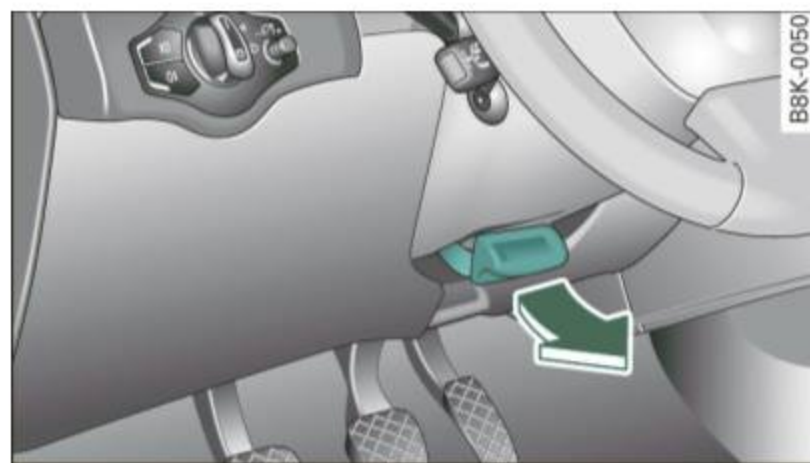

Fig. 115 Lever under the steering column
- Pull the lever ⇒ fig. 115 -Arrow- ⇒ ⚠.